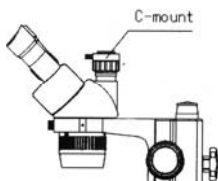

Fig.5
- (1) Adjust the CTV to a suitable position by rotating C-mount.
**Note:** The rang of the adjustment: 1~2mm in general. (Fig.5)